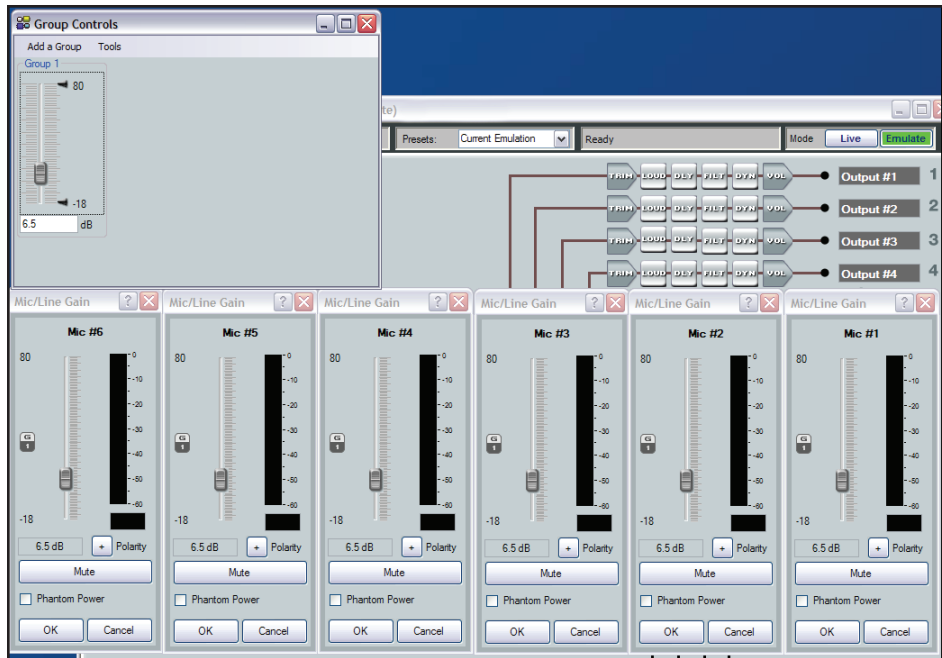

Figure 49. Sample Fader Group Master and Associated Gain Controls
Grouped faders move together at relative levels to the top or bottom of their travel (see figure 49, next page). If one fader reaches the limit of its travel first, it retains that position while the other faders continue to travel. When the grouped faders travel in the reverse direction, the fader that was at its limit reverts to its position relative to the other faders.
1. Click **Tools > Configure Groups** (see figure 49 on previous page) to open the Configure Groups dialog box.